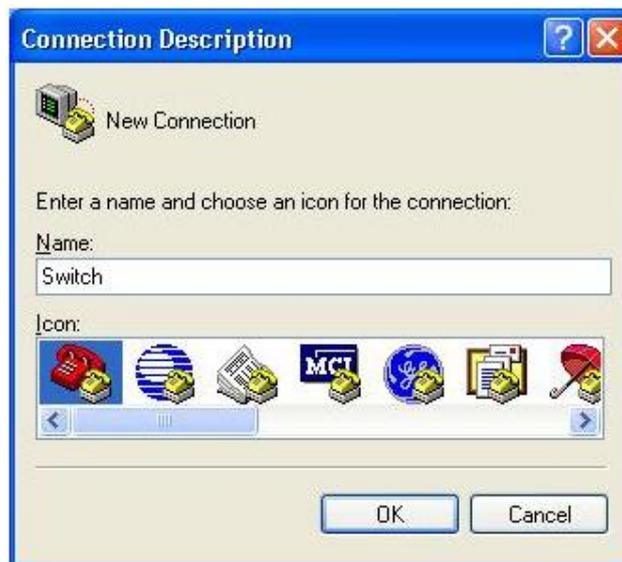

Figure 18 Creating a Connection
Step 3: Create a connection "Switch", as shown in Figure 18.